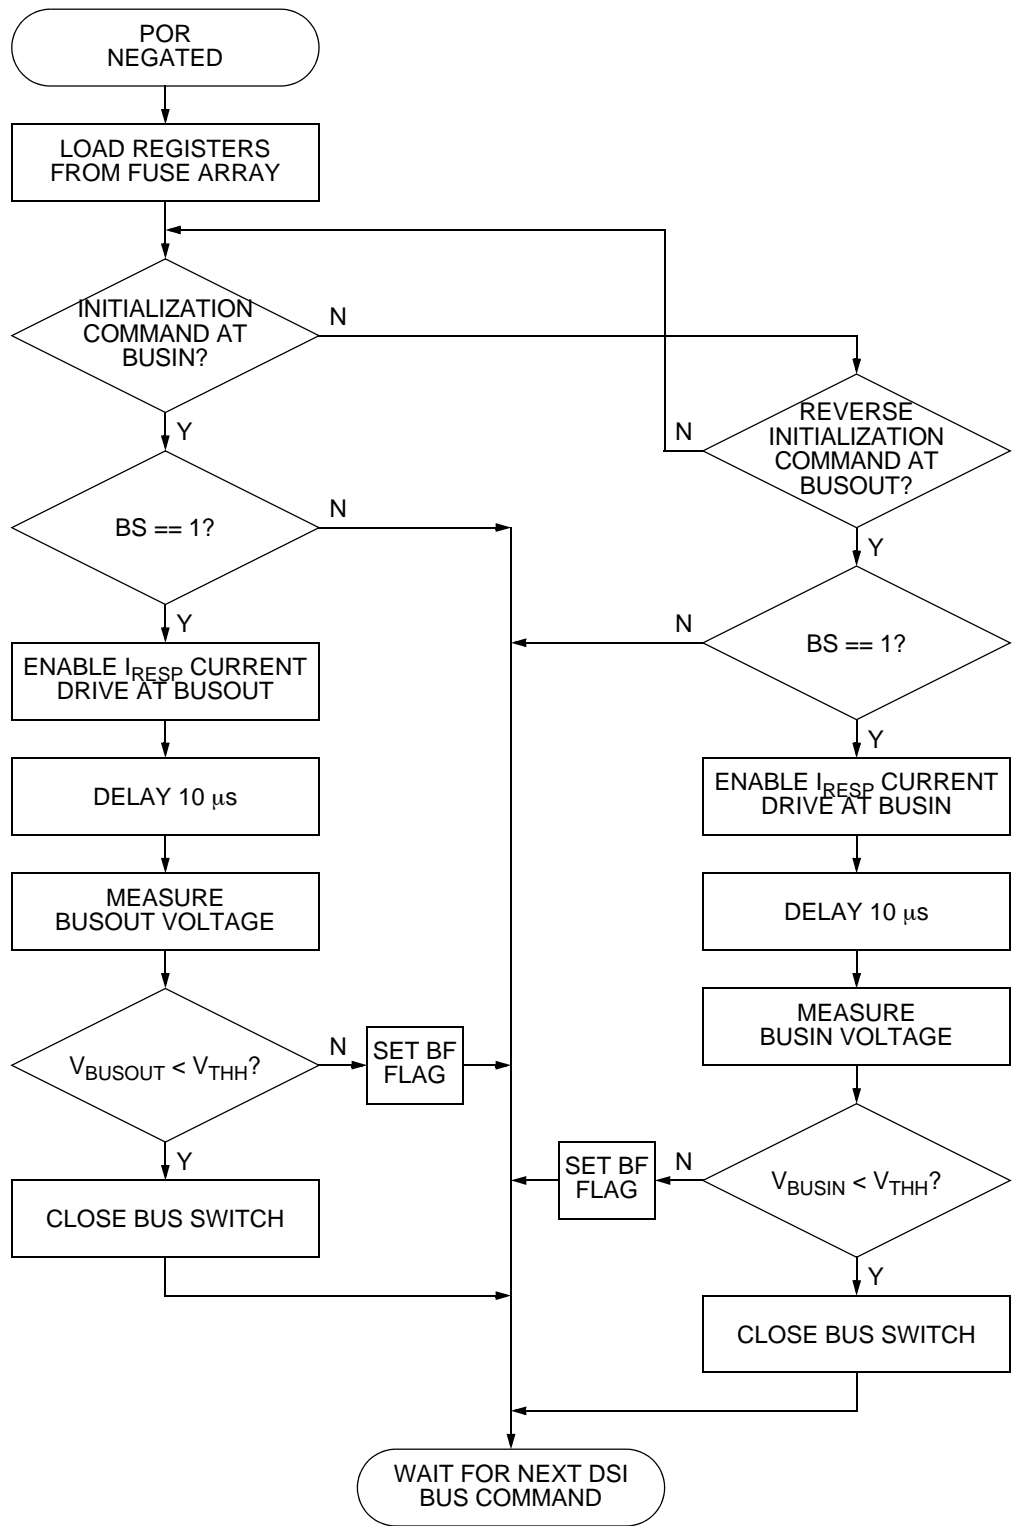

Figure 4-1. Initialization Sequence
Figure 4-1 illustrates the sequence of operations performed following negation of internal Power-On Reset (POR) and execution of a DSI Initialization command. Initialization commands are recognized only at BUSIN. The BUSOUT node is tested for a bus short to battery high voltage condition, and the Bus Fault (BF) flag set if an error condition is detected. If no bus fault condition is detected and the BS bit is set in the command structure, the bus switch will be closed. If the BS bit is set, the DSI bus voltage level is disregarded for approximately 180 μ s following initialization to allow the hold capacitor on a downstream slave to charge.